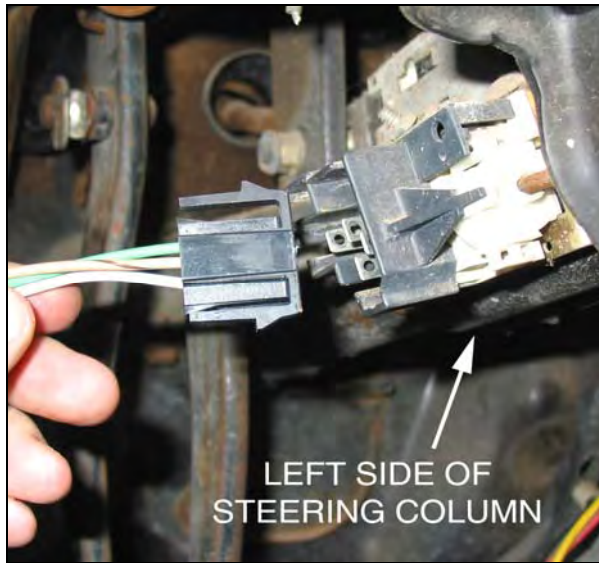

Figure 7.4.1 *Dimmer Switch*
- 7.4.1 The DIMMER SWITCH wires come pre-terminated with a connector installed. Slide the connector onto the DIMMER SWITCH, located on the left side of the column, to make your connection. **See Figure 7.4.1**